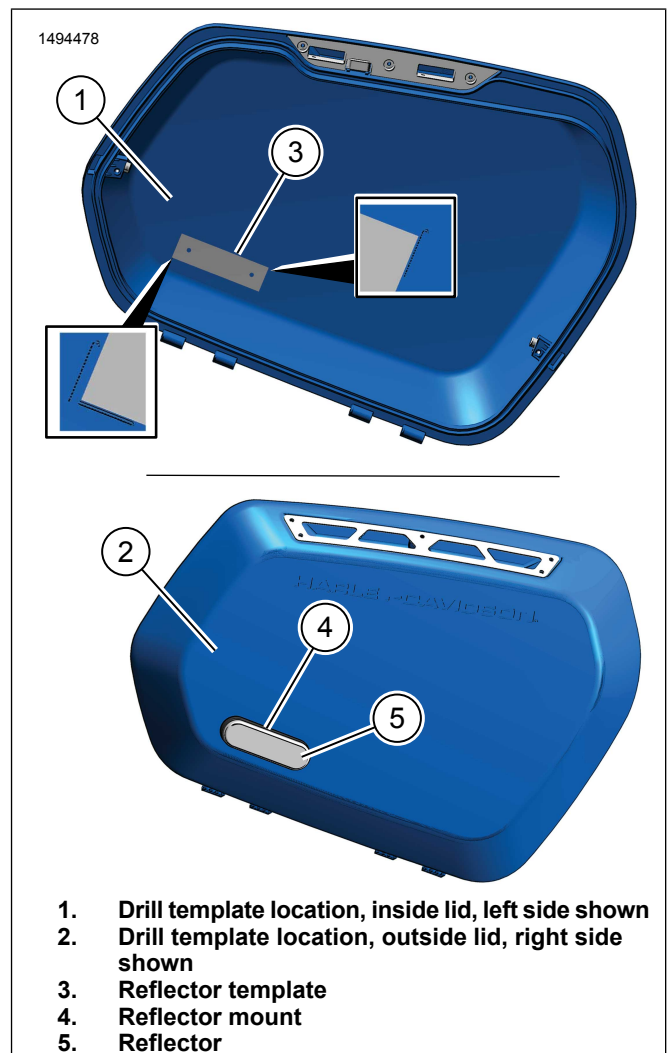

Figure 2.
1. Figure 2 Adhere drill template on lid.
5. Secure reflector mount (4) on outside of lid to reflector bracket with screws. Hand tighten.
6. Install reflector (5).